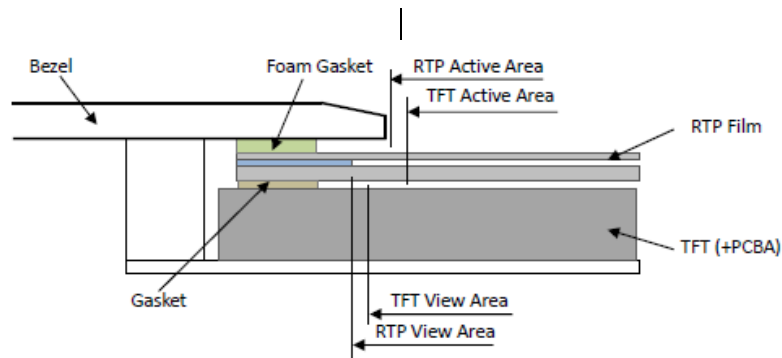

Figure 5
- In general design, RTP V.A. should be bigger than the TFT V.A. and RTP A.A. should be bigger than the TFT A.A. (Figure 5)
- 通常设计时: RTP的可视区 V. A. 应不小于TFT 的可视区 V. A. 及RTP的动作区 A. A. 应不小于TFT 的动作区 A. A. (附图5)